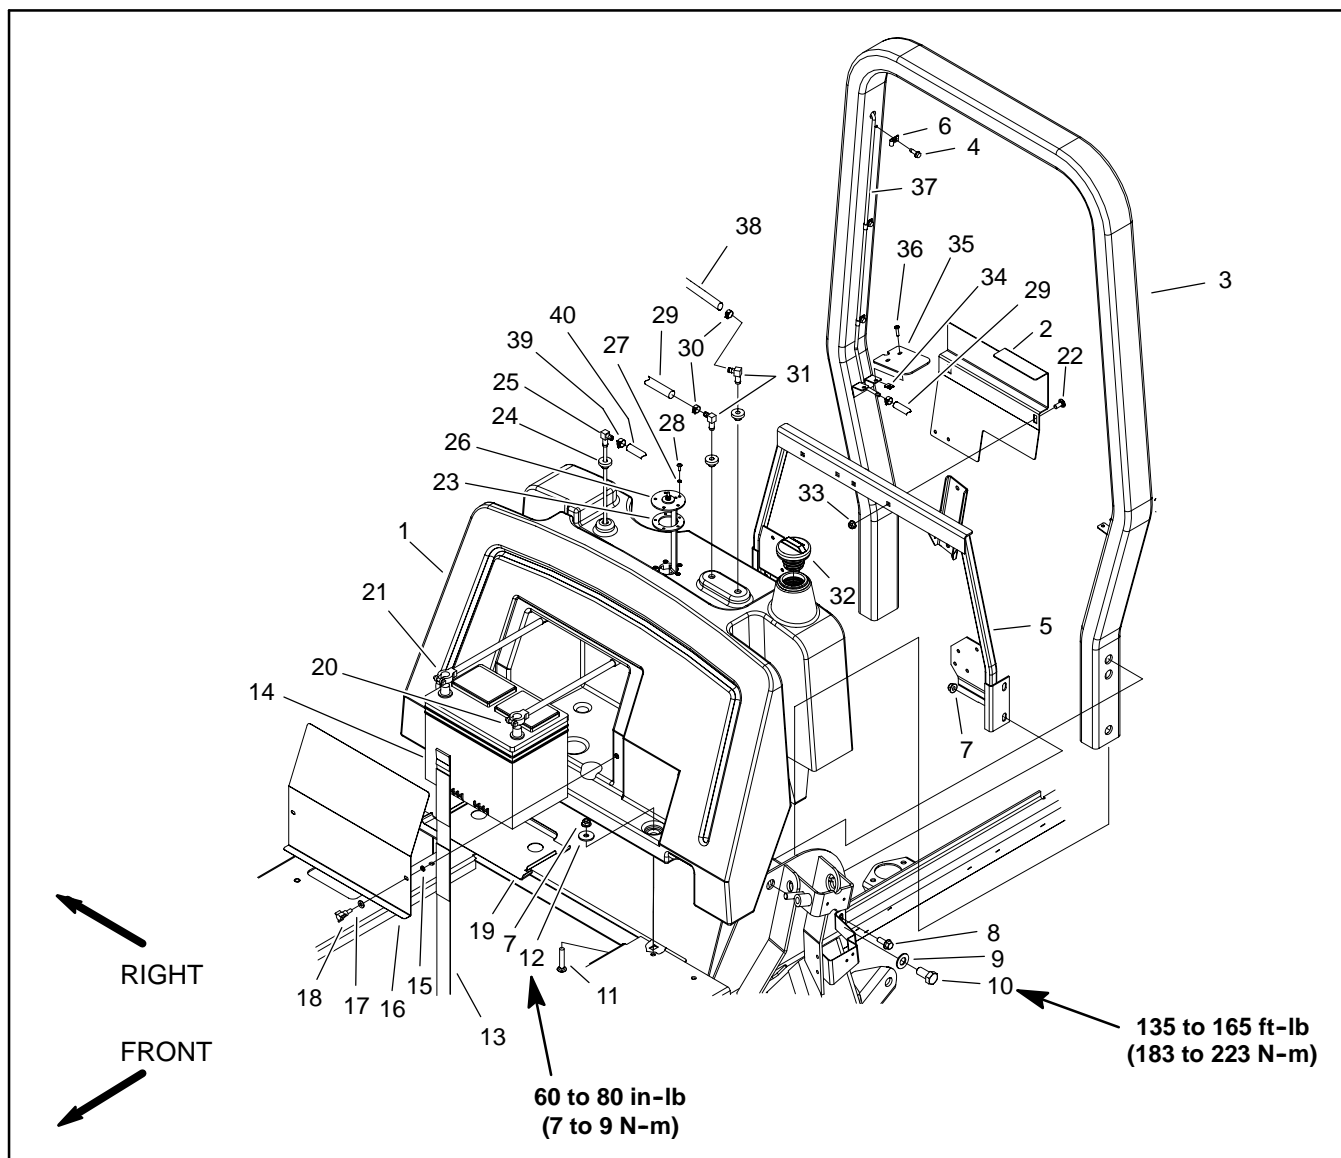
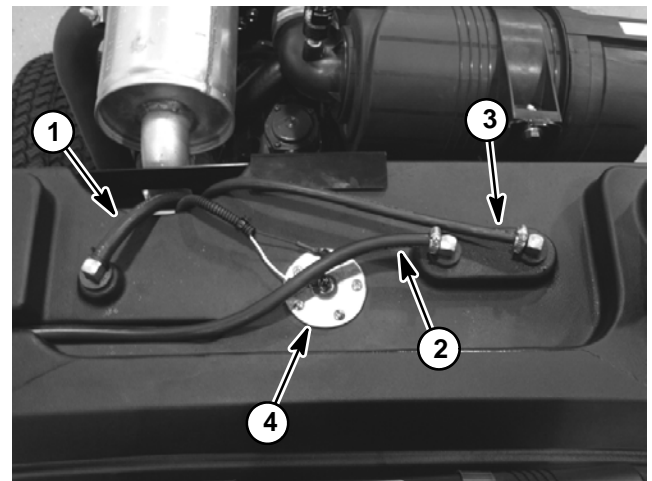

Figure 7
Figure 8
### Fuel Tank Removal (Fig. 7)
5. Disconnect wire harness connections from the fuel sender (item 26).
6. Disconnect fuel supply hose from standpipe and vent and overflow hoses from elbow fittings in top of tank (Fig. 8).
7. Remove phillips head screws that secure two (2) tank covers (item 35) to ROPS assembly. Remove tank covers.
8. Remove fuel tank using Figure 7 as a guide.
### Fuel Tank Installation (Fig. 7)
1. Install fuel tank using Figure 7 as a guide.
- A. Torque two (2) flange nuts (item 7) that secure the fuel tank to the frame from **60 to 80 in-lb (7 to 9 N-m)**.
2. Install two (2) tank covers to ROPS assembly.
3. Connect fuel supply hose to the standpipe and vent and overflow hoses to the elbow fittings (Fig. 8). Secure hoses with clamps.